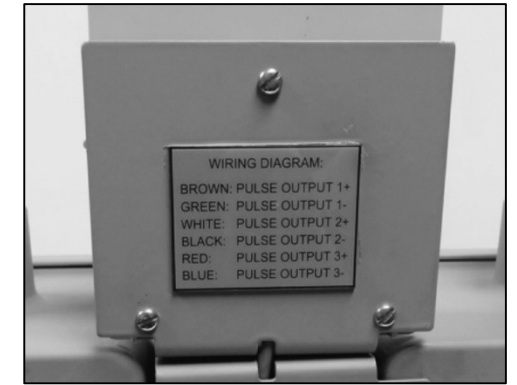

Figure 32: Lower screws and nuts installed
8. Install the bottom set of screws and nuts as shown in Figure 32.